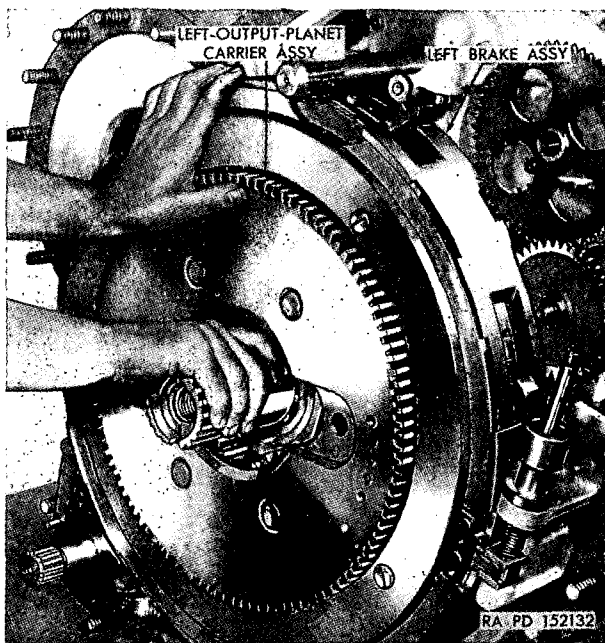

Figure 393. Installing left output planet carrier.
- (5) Install the shims on the end of the cross-drive shaft (fig. 63). Install the left output ring gear (fig. 62). With the thrust washer in place, install the left output planet carrier. Rotate the planet carrier to engage the brake plates and the oil pump gear (fig. 393). Install the thimble (41-T-1640) on the brake-apply shaft.